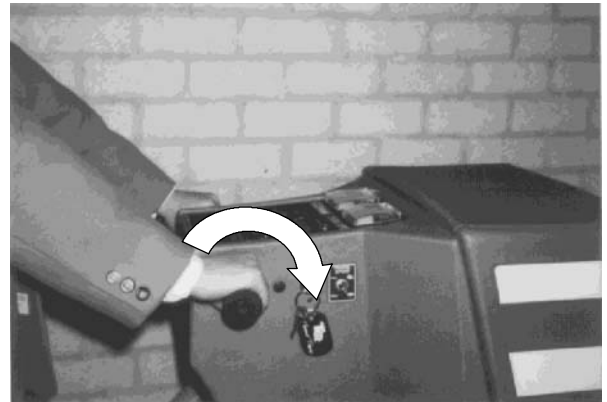

FIG. 6
4. Twist the control grips forward (Figure 6). The pad motor will start and suction will draw the moving pad to the floor. Immediately push or pull the machine in the desired direction.
5. Twist control grips forward until the pad motor starts (Figure 6). The machine will transport forward and suction will draw the moving pad to the floor.